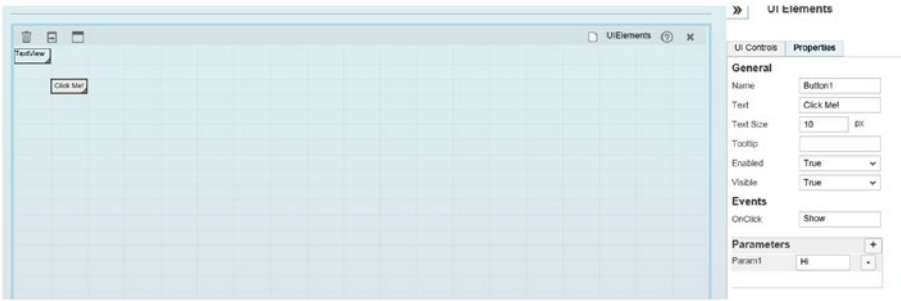

Figure 7-75. Setting events of an UI element
- ✓ Upon adding an EventHandler, a JavaScript method is created in the custom code area in the Source Code tab. The UI elements along with the configurations in the Preview tab can be seen. See Figure 7-75.